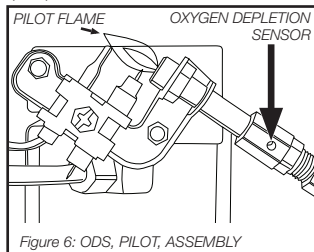

Figure 6: ODS, PILOT, ASSEMBLY
**PRECAUTIONS TO BE TAKEN WHEN THE APPLIANCE IS NOT TO BE USED FOR A PERIOD OF TIME:** Always keep the heater area clear and free from combustible materials, gasoline and other flammable vapors and liquids. Store heater when it has cooled in a zippered bag or other sealed dust free location between uses. Keep the vent areas (slots in the bottom and the top at the front of heater) clear at all times. Visually inspect the pilot flame and burner periodically during use. The pilot flame should be blue in color (not yellow) and will extend beyond the thermocouple. The flame will surround the thermocouple just below the tip, see Figure 6. A slight yellow flame may occur where the pilot flame and main burner flame meet. The burner should be bright orange (with a slight blue color around the border, a red-orange haze that is visible on the ceramic tile is acceptable) and without a noticeable flame. A blue flame that rolls out at the top of the ceramic tile indicates an accumulation of dust, lint or spider webs inside the casing assembly and main burner assembly. If the pilot is yellow or the burner has a noticeable flame, cleaning may be required. Use the following procedure to inspect the casing assembly and main burner assembly. It is necessary to periodically check the burner orifice and burner venturi tube to make sure they are clear of insects/ nests or spider webs that may accumulate over time. A clogged tube can lead to a fire.
3. Remove (4) four screws that secure the rear cover to the Heater.
5. Remove (4) four burner retaining screws and fuel line from burner assembly. Remove burner assembly from back of housing.
7. Inspect and clean main burner orifice (threaded into orifice holder). Orifice holder is attached to the burner assembly venturi with (2) two screws.
8. Inspect and clean pilot (mounted to bracket) by using a vacuum or apply air pressure through the holes in the pilot indicated by the arrows in Figure 6. **WARNING:** Never use needles, wires, or similar cylindrical objects to clean the pilot to avoid damaging the calibrated orifice that controls the gas flow.